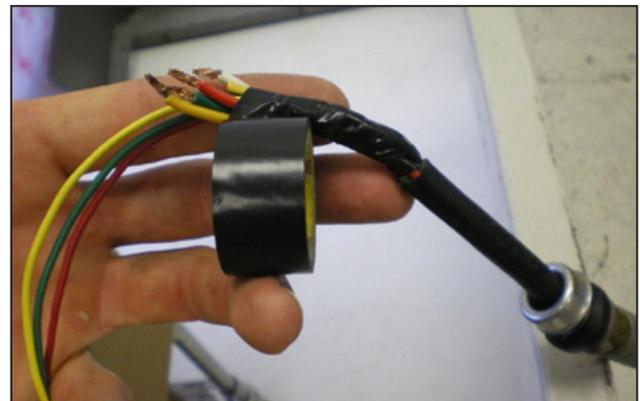

Figure 12
G. Splice new motor wires to old wires with electrical tape as shown in **Figure 12**. Use old wires to pull new wires through flex conduit and into mill column.